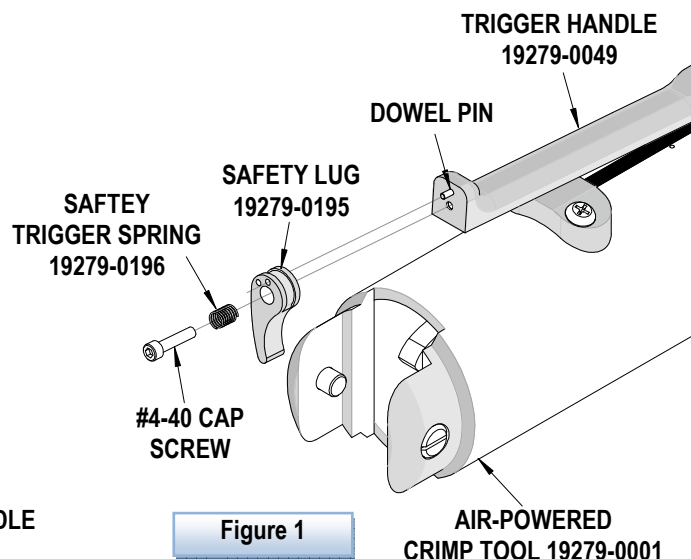

Figure 1
2. Slide off the Safety Lug and Safety Spring from the trigger handle. See Figure 1.